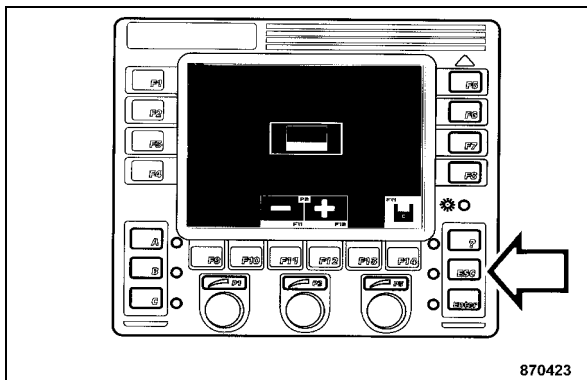

Fig. 89
- Press "ESC" (Fig. 89) to return to the start screen.